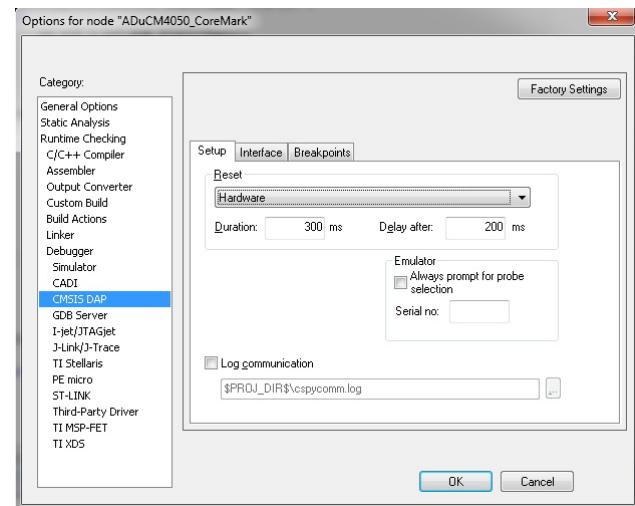
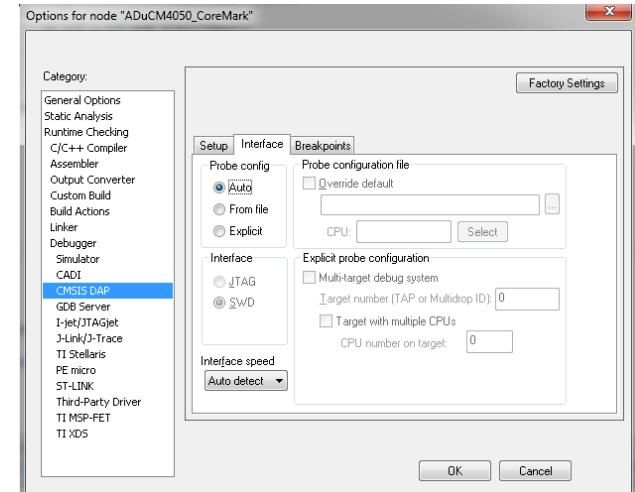

Figure 11. **CMSIS DAP**—Setup Configuration
Figure 12. **CMSIS DAP**—Connection Configuration
6. Figure 11 and Figure 12 show the **CMSIS DAP** configuration. Use the **Hardware** target reset.